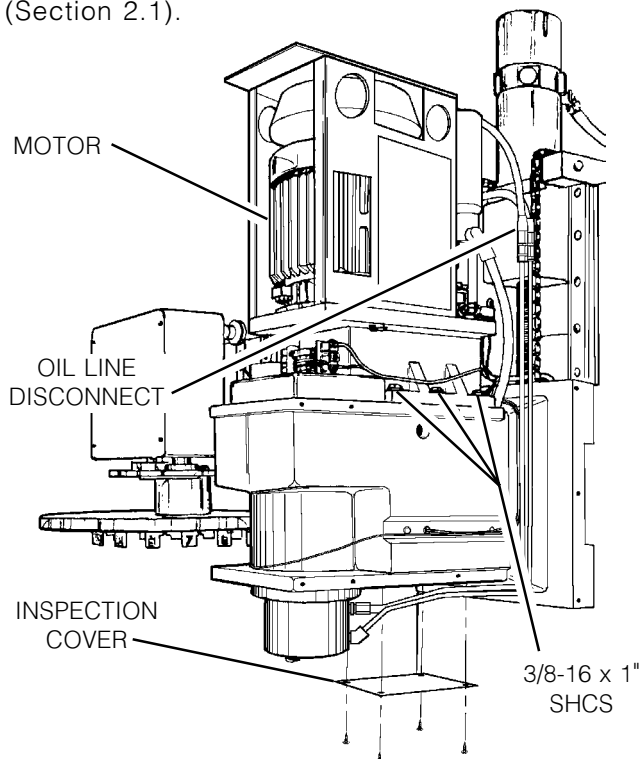

Fig. 3-1 Spindle head casting disconnect points (VF-1, VF-2)
7. Remove the **inspection cover** from the bottom of the spindle head casting (Fig. 3-1) and carefully slide the **drive belt** between the sump tank and the web in the casting.